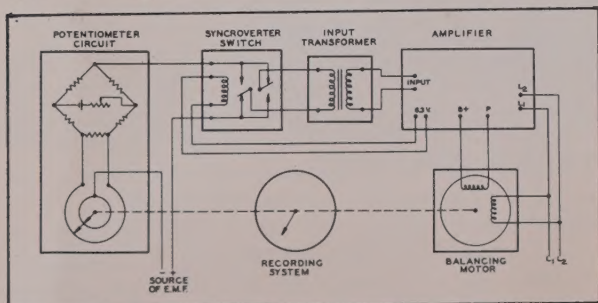

FIGURE 2. SIMPLIFIED SCHEMATIC WIRING DIAGRAM OF DYNAMASTER D-C POTENTIOMETER
1. The Dynamaster D-C Potentiometer. (See Figure 2) A millivoltage input from the measuring element is connected in series with the potentiometer circuit and Syncoverter switch. There is a standard voltage in the potentiometer circuit which is automatically adjusted